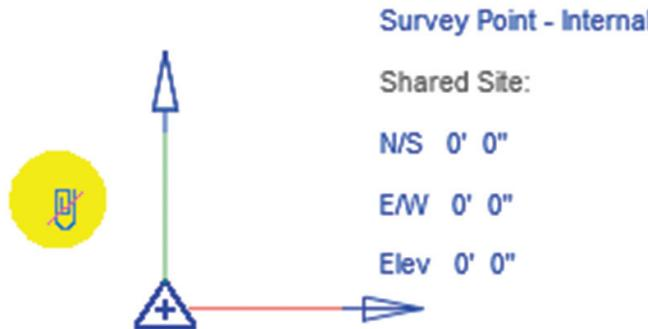

Figure 5
- Click on the paperclip icon to “unclip” the Survey Point (see Figure 5).